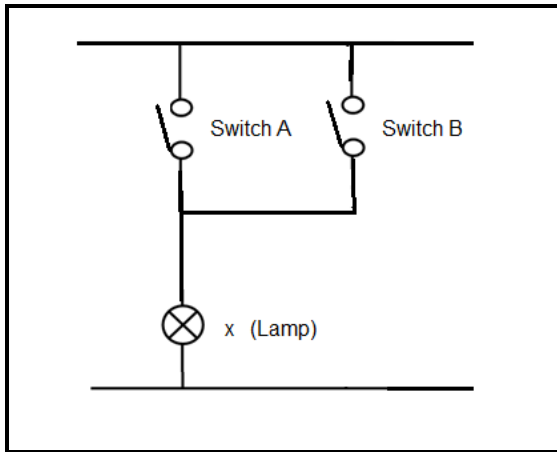

FIGURE 17.1
17. The circuit in FIGURE 17.1 below represents a logic function.